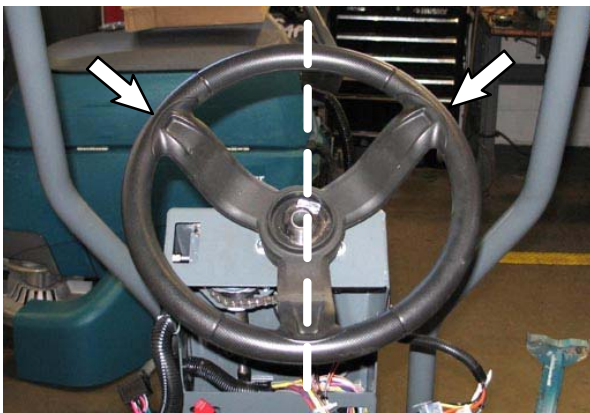

FIG. 62
24. Position the steering wheel on the steering column as shown in Fig. 62.